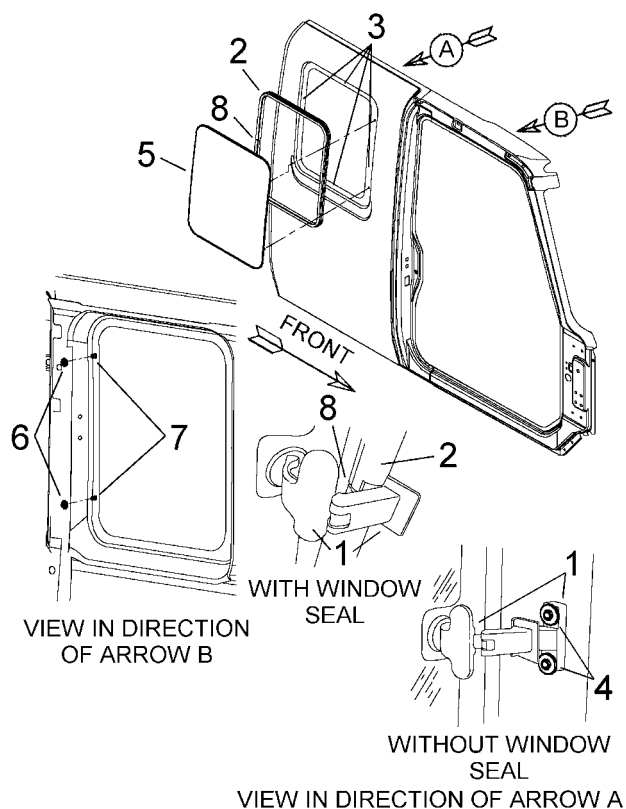

Figure 6 Extender Cab Rear Side Window Components
3. Open the rear side window latch and remove the window seal (Figure 6, Item 2) by pulling it off the window fence (Figure 6, Item 3).
5. From inside the cab, remove two flanged hex bolts from the latch (Figure 6, Item 4).
6. From inside the cab, remove two flanged hex nuts at the front of the window (Figure 6, Item 6)